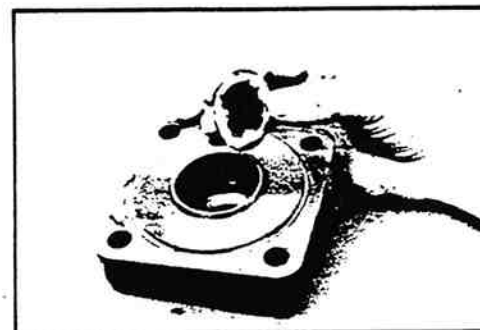

Figure 11-77. Installing Thrust Washer.
26. Apply a generous amount of clean grease to one thrust washer (22). Install the thrust washer into the valve housing (19), making sure to center the thrust washer in the counterbore (figure 11-77).